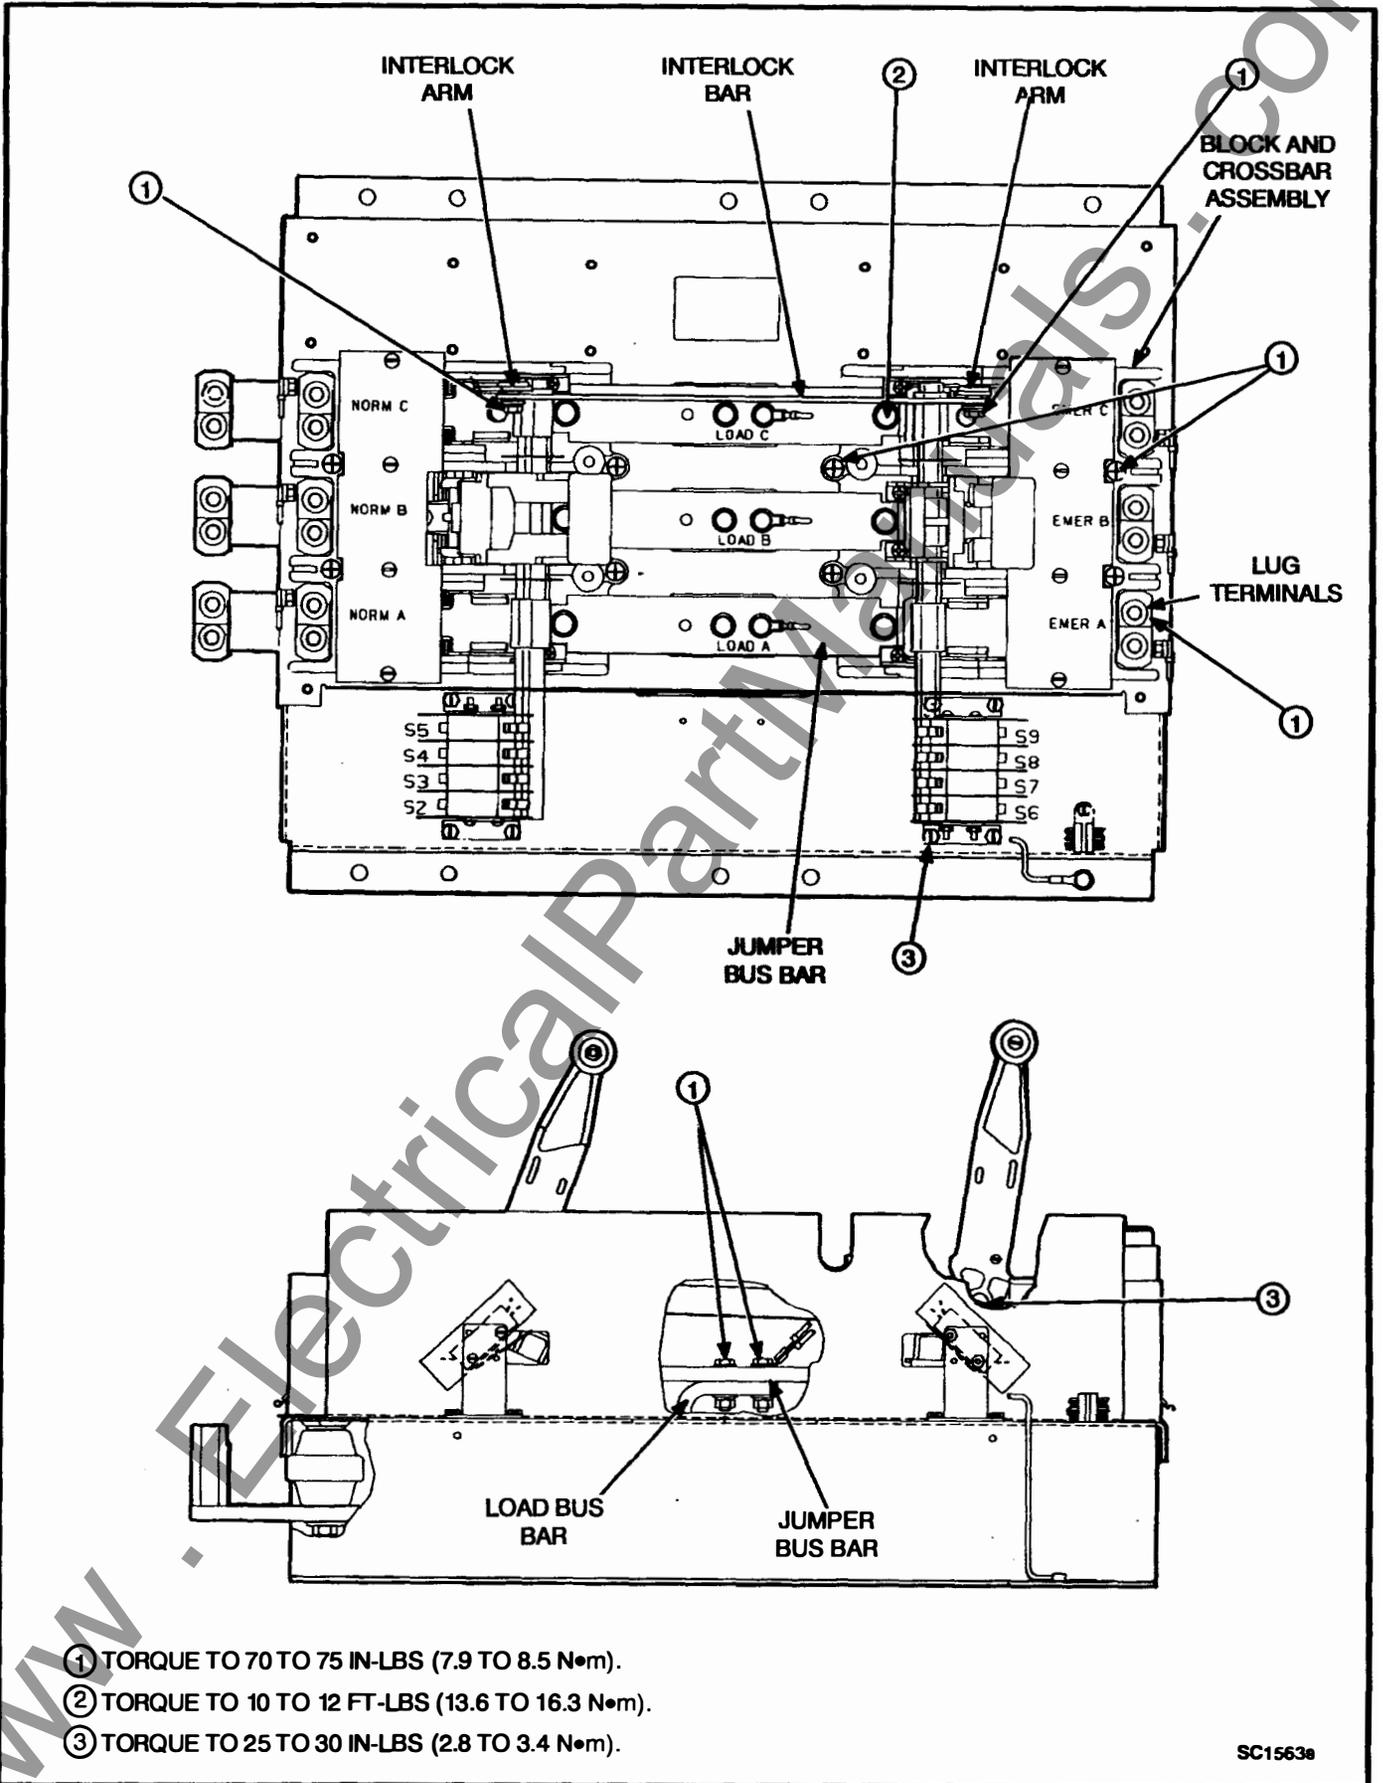

FIGURE 4-13. 3-POLE SWITCH ASSEMBLY (300 TO 600 AMPERES)
2. Remove the hex head capscrews, lock washers, and flat washers that secure the interlock bar to the interlock arm (Figures 4-13 and 4-14), and remove the interlock bar.
1. Install the interlock arm on the block assembly using the capscrew and lock washer (Figures 4-13 and 4-14). Torque to 70 to 75 in-lbs (7.9 to 8.5 N•m).
2. **On 4-pole switches (Figure 4-13):** Secure the block and contact assembly to the base using the four screws removed in step 10 above. Tighten the screws to 25 to 30 in-lbs (2.8 to 3.4 N•m). Place the bearing bracket (removed in step 9) in position on the end of the cross-bar assembly.
6. Secure the load bus bars to the jumper bus bars with the capscrews, lock washers, flat washers, spring washers, ring terminals, and nuts (Figure 4-13 and 4-14). Be sure to apply a thin coat of electrical joint compound between the current-carrying surfaces. Tighten 70 to 75 in-lbs (7.9 to 8.5 N•m).
Note that each switch must be assembled so the side with two terminals faces inward (Figures 4-13, 4-14, and 4-15) when the auxiliary switch assembly is installed on the base.
3. Install the control wiring leads on the corresponding switch terminals. Leads are marked with the terminal numbers (S2/NO, S5/NC, S7/C, etc.) for identification. Refer to figures 4-13, 4-14, and 4-15 for identification of the auxiliary switch terminals.